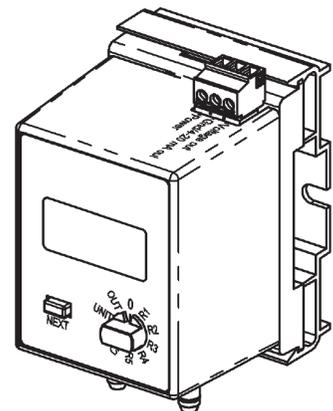

Figure 3: Snaptrack Mounting with Tabs In
2. Catch the EZ mount hook on DIN rail as shown in Fig 3.
Snaptrack Mounting, Fig 3: